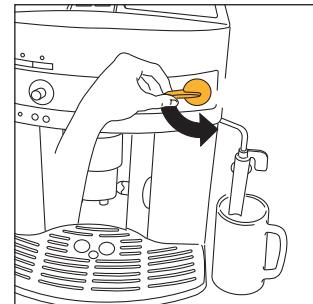
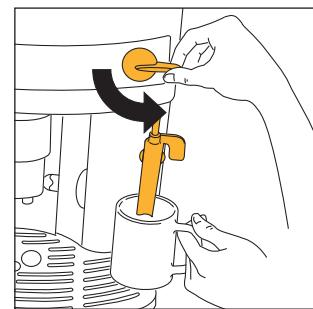
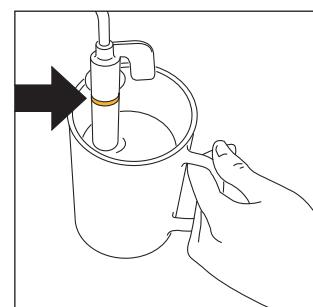

Fig.5
Fig.23
Fig.24
3. **IMMEDIATELY AFTER, WITHIN A MAXIMUM OF 30 SECONDS**, turn the steam knob anticlockwise until it stops (Fig.5) (it is normal for the machine to make some noise).
- Turn the steam knob half a turn in anticlockwise until it stops (Fig. 5): hot water will come out of the milk frother and start to fill the container underneath.
- Immediately after, within a maximum of two minutes** (otherwise the machine automatically returns to the coffee function), dip the milk frother into the container of milk (Fig. 23), making sure not to immerse the line in relief on the milk frother (indicated by the arrow in Fig. 24) and turn the steam knob half a turn anticlockwise until it stops (Fig. 5). *(Be careful, to avoid being scalded).* The steam released will make the milk froth and increase in volume. To make creamier foam, dip the milk frother into the milk and rotate the container with slow movements from the bottom to the top (you are recommended to limit steam delivery to no more than two minutes at a time).
- Release a little steam for a few seconds by turning the steam knob anticlockwise until it stops (Fig. 5).